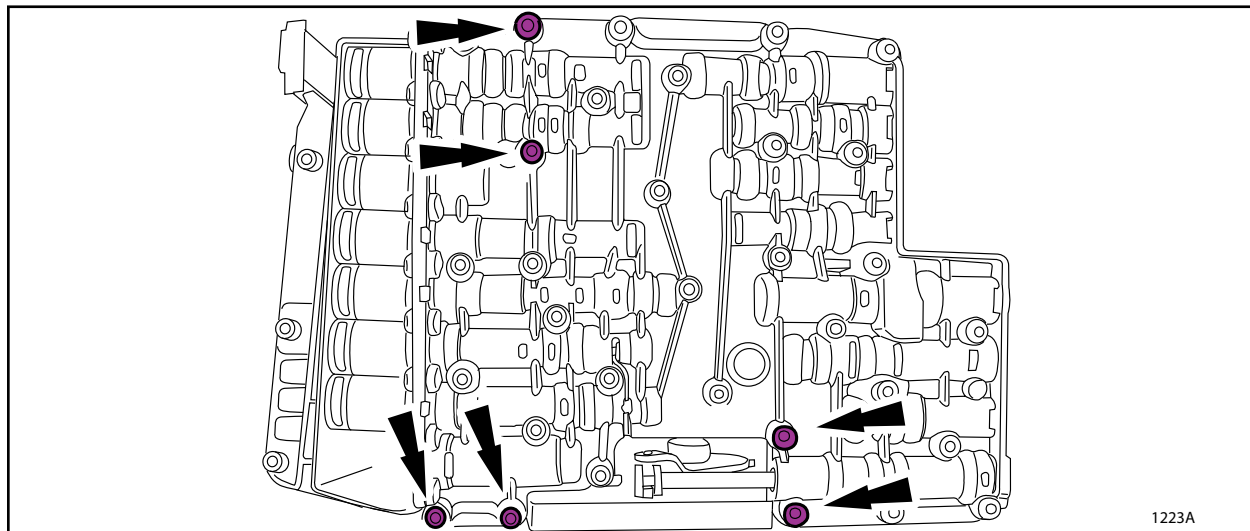

FIGURE 4
8. Install, but do not tighten, the six long bolts that attach the main control assembly to the *new* molded leadframe. See Figure 4.